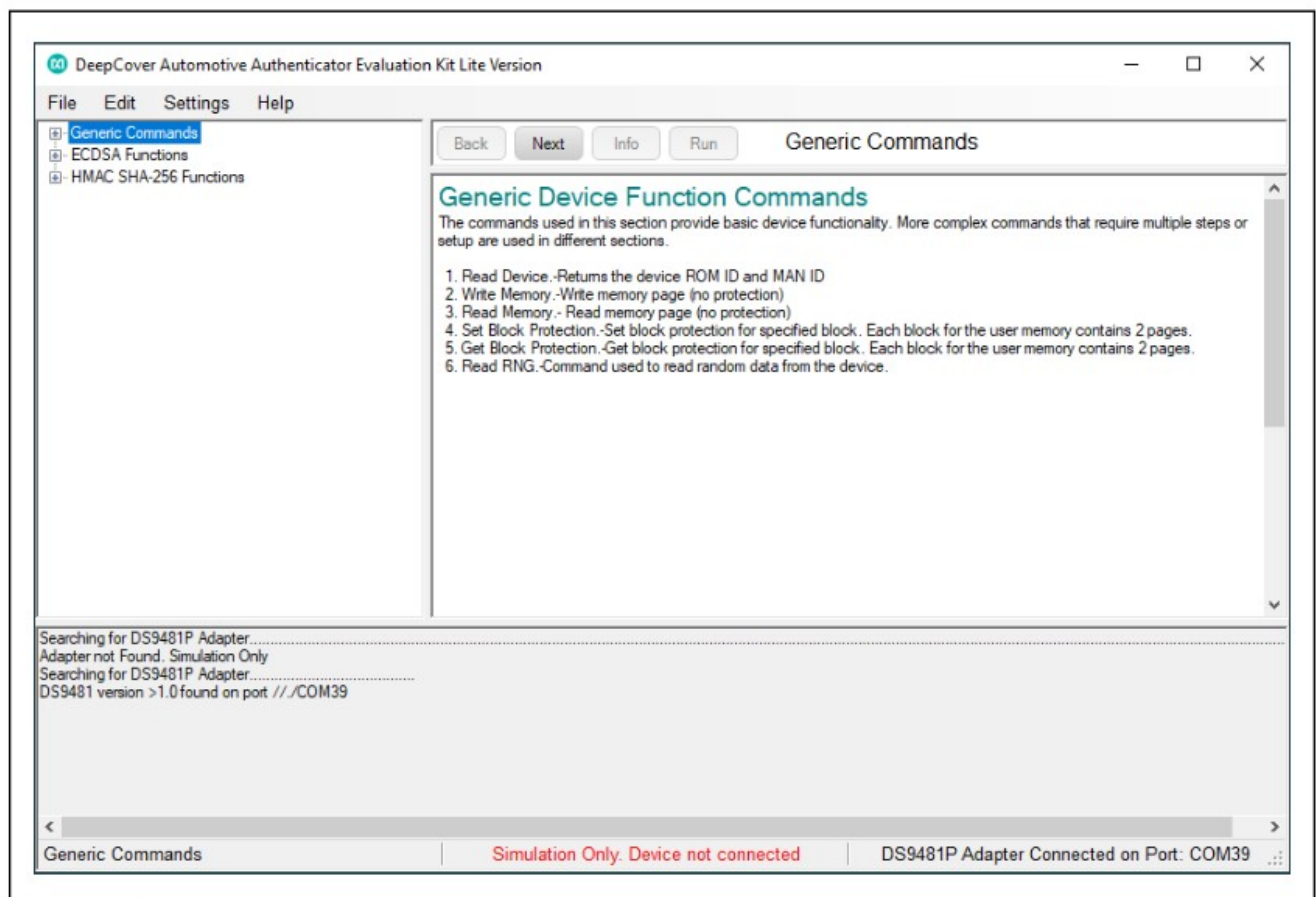

Figure 7. DS28E30 EV Kit Program (Default View Upon Opening)
9. The DS28E30 EV kit program opens and automatically connects to the COM port. Review message in the lower right corner of the window to verify connection (Figure 7).